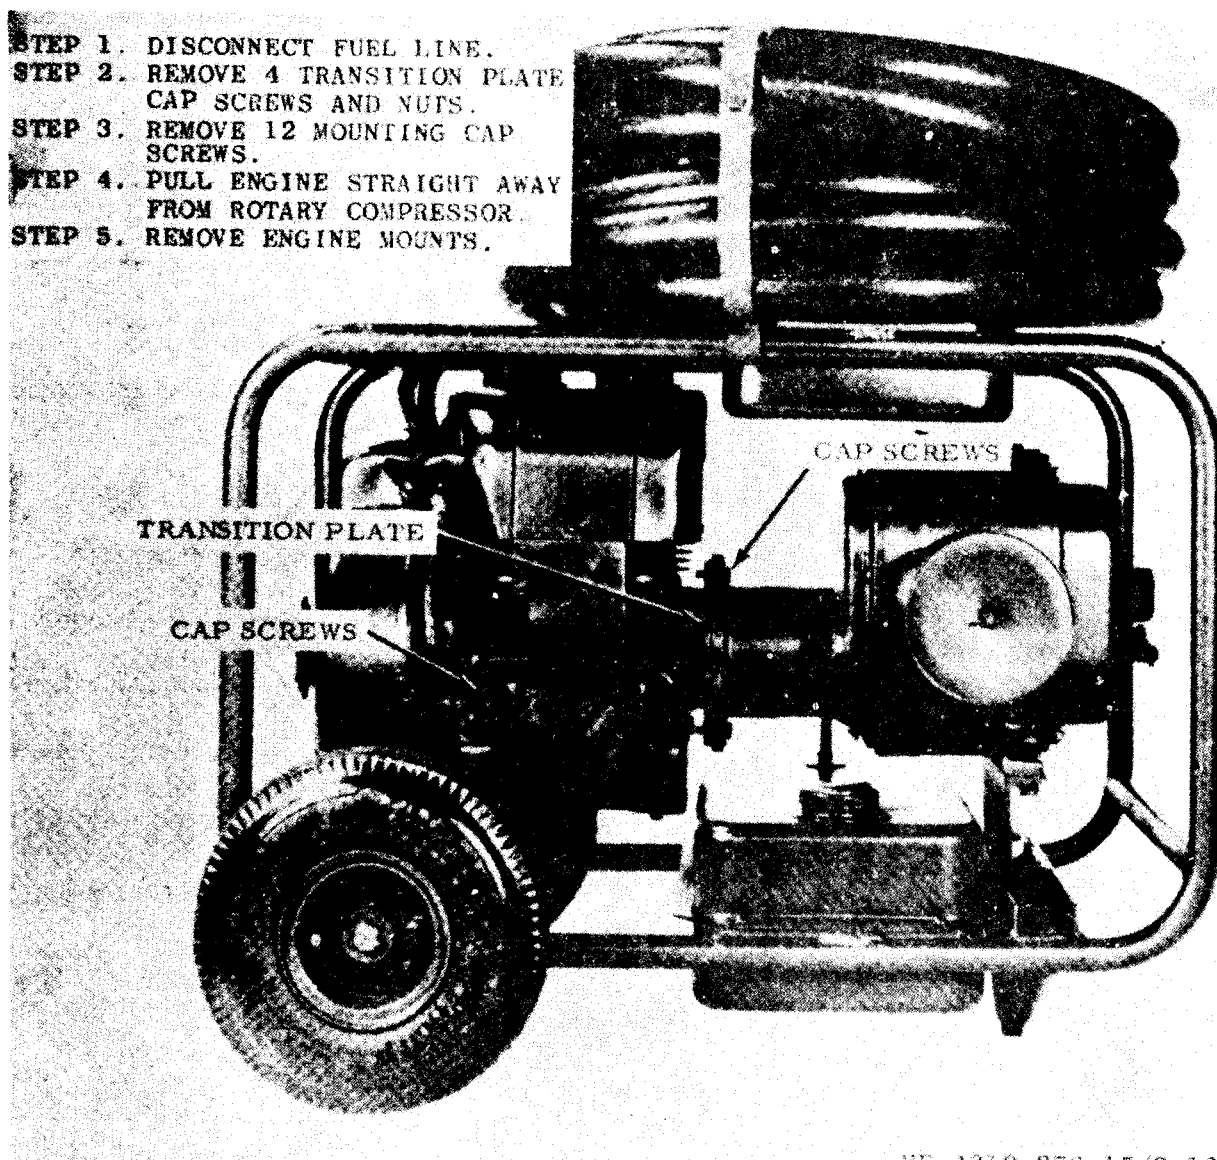

Figure 3-10. Engine, removal and installation.
- (1) Refer to figure 3-10 to remove engine.
- (2) Remove coupling parts from engine (para 3-26a).
- (1) Install coupling parts on engine (para 3-26c),
- (2) Refer to figure 3-10 to install engine.